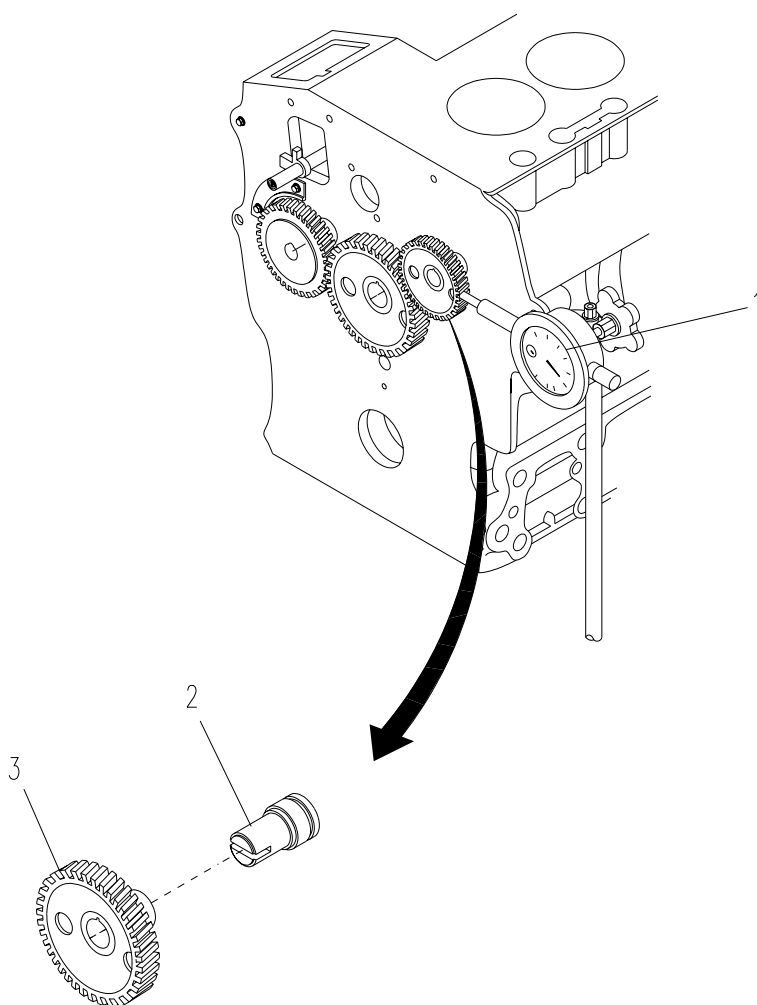

Figure 6-14. Camshaft Gear
- a. Set up a dial indicator (1, Figure 6-14) with its tip on a tooth of the camshaft gear (3).
- (1) If oil clearance between idle gear shaft and idle gear bushing is within tolerance, replace camshaft gear.
- (2) If oil clearance between idle gear shaft and idle gear is out of tolerance, replace idle gear bushing (para 6.14.) or idle gear shaft (para 6.15.) and retest camshaft gear backlash. If backlash still exceeds 0.0059 in. (0.15 mm), replace camshaft gear.